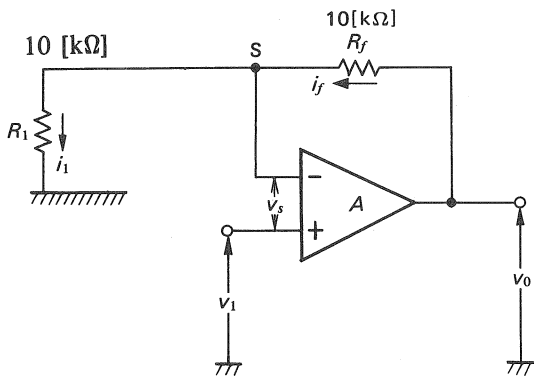

Fig. 6 Noninverting Amp
A diff amp having its output in phase with the input is called a noninverting amp. Fig. 6 shows a noninverting amp. In this case, the input signal is applied to the (+) terminal. The relationship between v_1 and v_o is as follows: $v_s = 0$ due to imaginary short. The voltage at the (-) terminal becomes equal to v_1 . No current flows in or out of the (-) terminal because the input impedance is infinite. Thus i_i becomes equal to i_f .
In Fig. 6, the moment a signal is applied to the (+), v_s appears, although it is very small. It is amplified and appears at the output. Much of v_o is negatively fed back to (S) via R_f (10KΩ) to minimize v_s . v_s decreases. v_o decreases. Feedback decreases. v_s increases. v_o increases again. This circular operation repeats quickly until the circuit balances and stabilizes at a certain point. The gain of this amp is the ratio of v_o/v_1 . Fig. 7 shows the input and output signal when $G=2$.